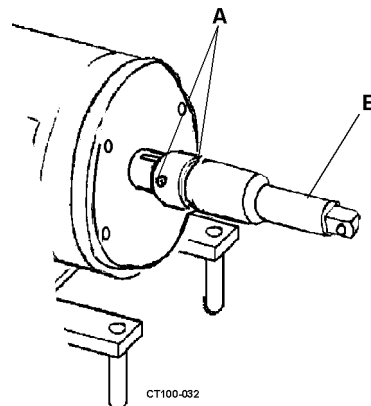

Figure 21 - Stub Shaft Removal
- Loosen the two (2) set screws securing the stub-shaft to the motor shaft (See Figure 21 item A and B). Carefully remove the stub-shaft. The stub-shaft is a tight fit, but can be removed by applying pressure around the periphery of the shaft with a pry-bar.